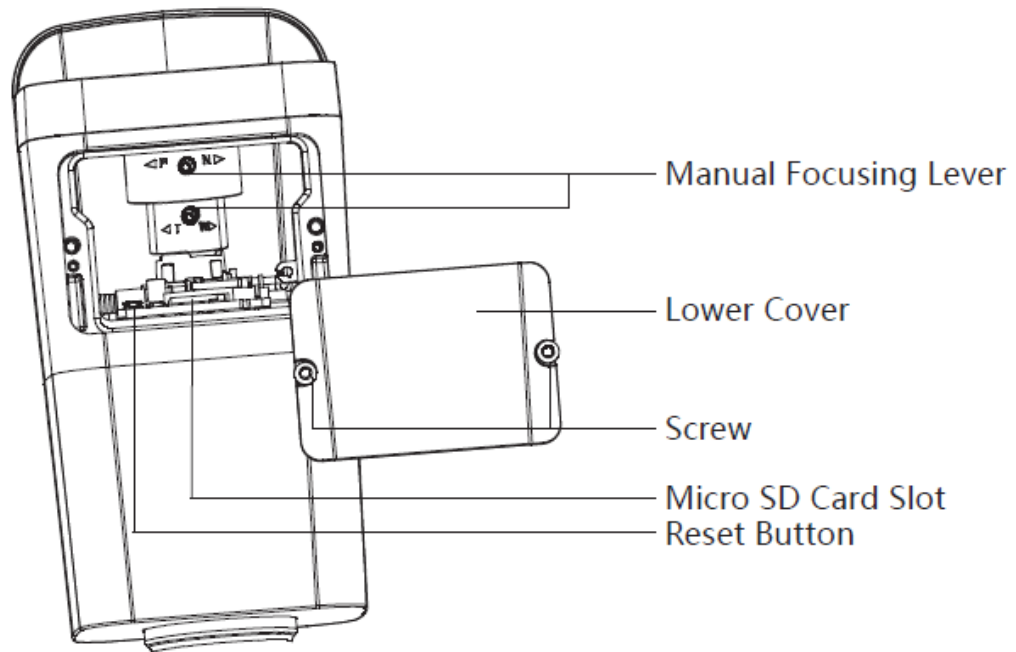

Figure 2-1
Step 2 Please insert the Micro SD card into the slot which is shown in Figure 2-1, the card slot is elastic so it only needs to press slightly to install the Micro SD card.